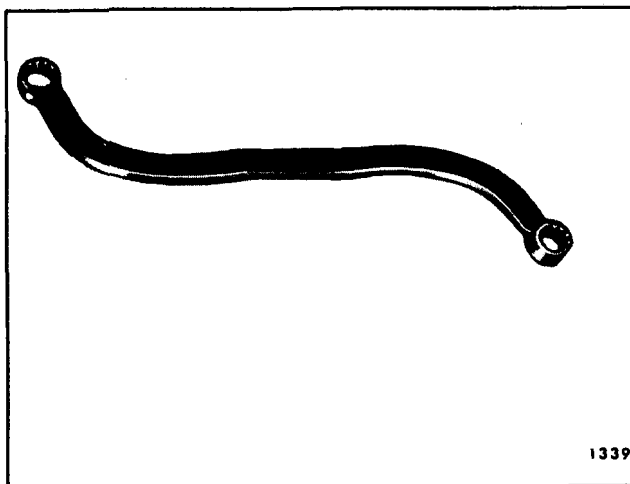

Fig. 6-54 Front Door Hinge Tool J-21550 (1/2" Box)-"X" Styles
2. Fore and aft adjustment provided on body side hinge strap. (use tool J-21550 or equivalent, Figure 6-54).